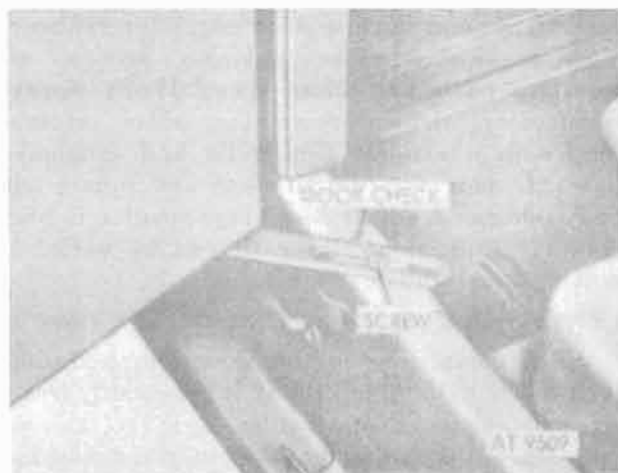
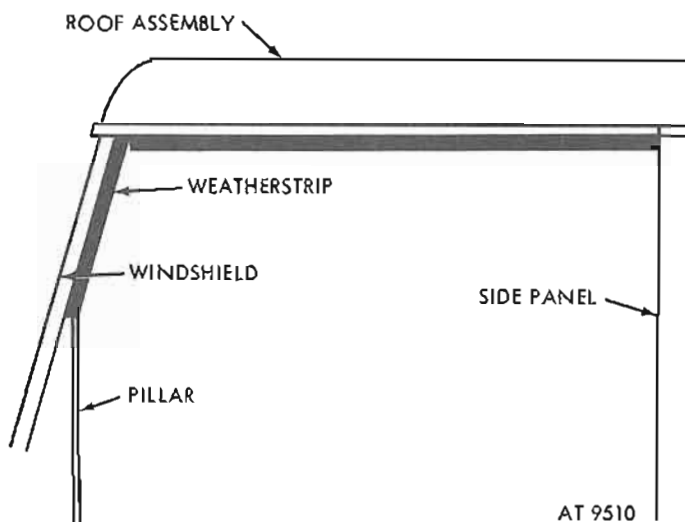

Figure 18-90. Door check link.
Figure 18-91. Door weatherstrip installation.
(5) Attach roof panel to windshield using four screws, flat washers, lockwashers, and nuts.
(6) Attach pillar to body side panel and side of windshield on each side of vehicle using eight screws, lockwashers, and flat washers. After attaching one pillar and door assembly, loosen retaining strap and adjust to be tight when other door is in maximum open position. When other door is installed, adjust strap in same manner.
(7) Attach door check link on bottom of door to side panel using one screw, flat washers, and nut. Back nut off $\frac{1}{4}$ to $\frac{1}{2}$ turn after tightening (fig. 18-90).
(8) Attach pillar to dash panel on each side of vehicle, using two screws, flat washers, lockwashers, and nuts.
(9) Attach pillar to windshield on each side of vehicle, using two screws, lockwashers, and flat washers.
(10) Apply adhesive (MIL-A-5092, type II) to weatherstrips and to side of windshield at door openings. Install weatherstrips (fig. 18-91).
(11) Remove hood catch on windshield and discard screws.
(12) Install hood catch on windshield with two spacers between catch and windshield, using two screws and lockwasher assemblies, and nuts.
(1) Remove screw, nut, and washers retaining door check link to body (fig. 18-90), and allow door
(1) Cut suitable lengths of material from bulk weatherstrip stock.
(2) Apply a light but thorough coat of adhesive (FSN 8040-262-9031) to weatherstrip contact area of door.
(3) Apply a light coat of the same adhesive to weatherstrip mating surface.
(4) Allow adhesive to become tacky, and then mate weatherstrip to door, working from one end and taking care not to stretch rubber material.
(5) Install door check link (fig. 18-90).